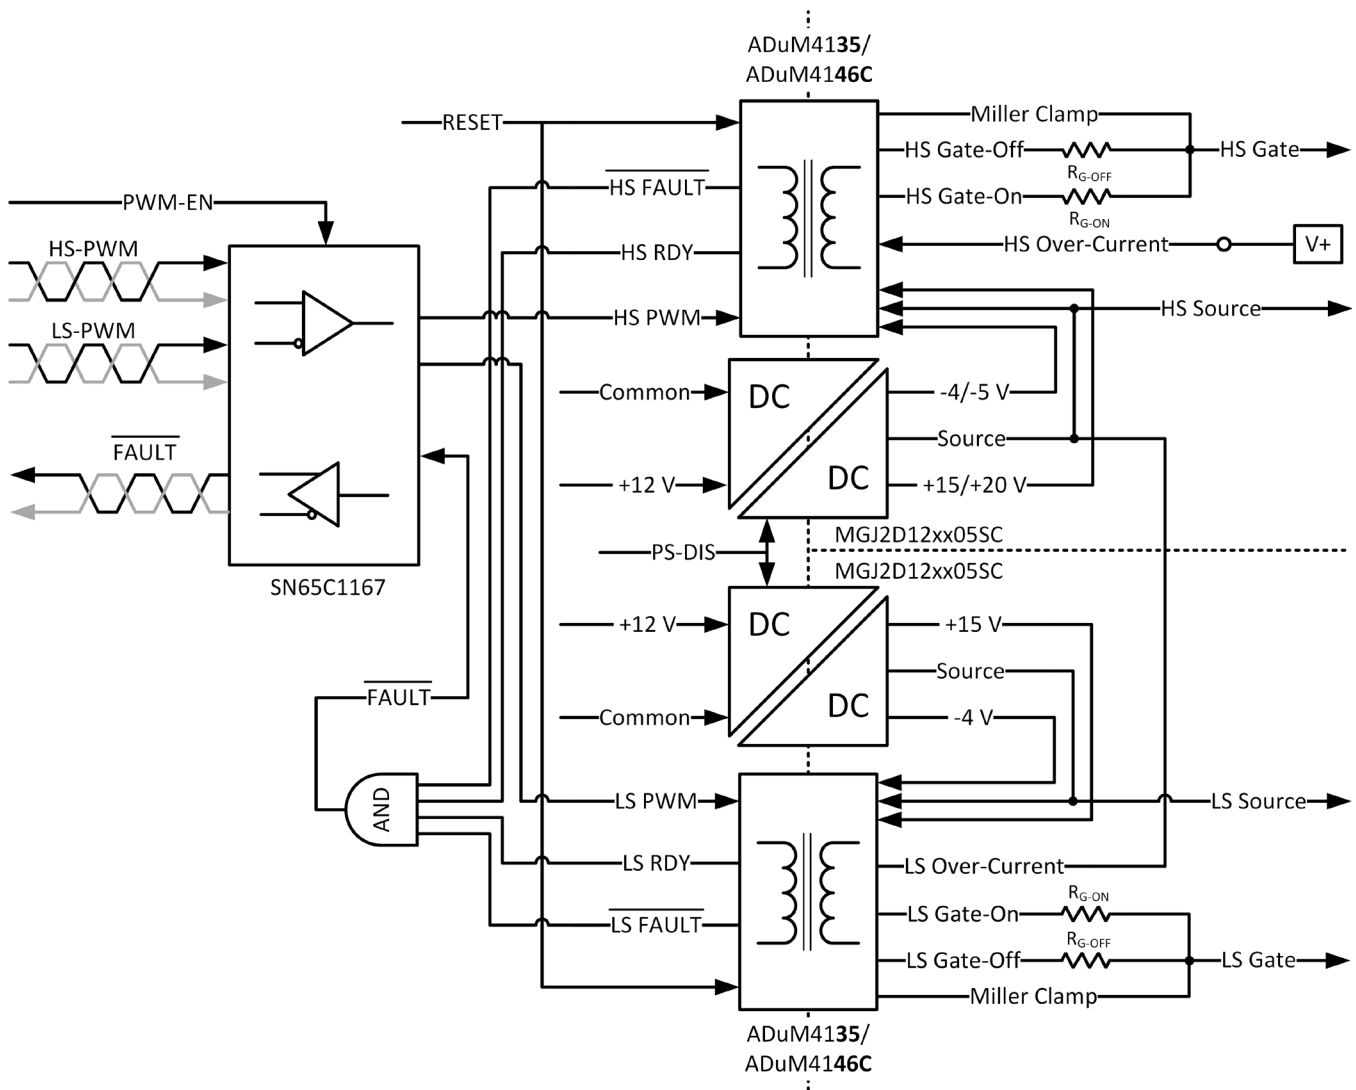
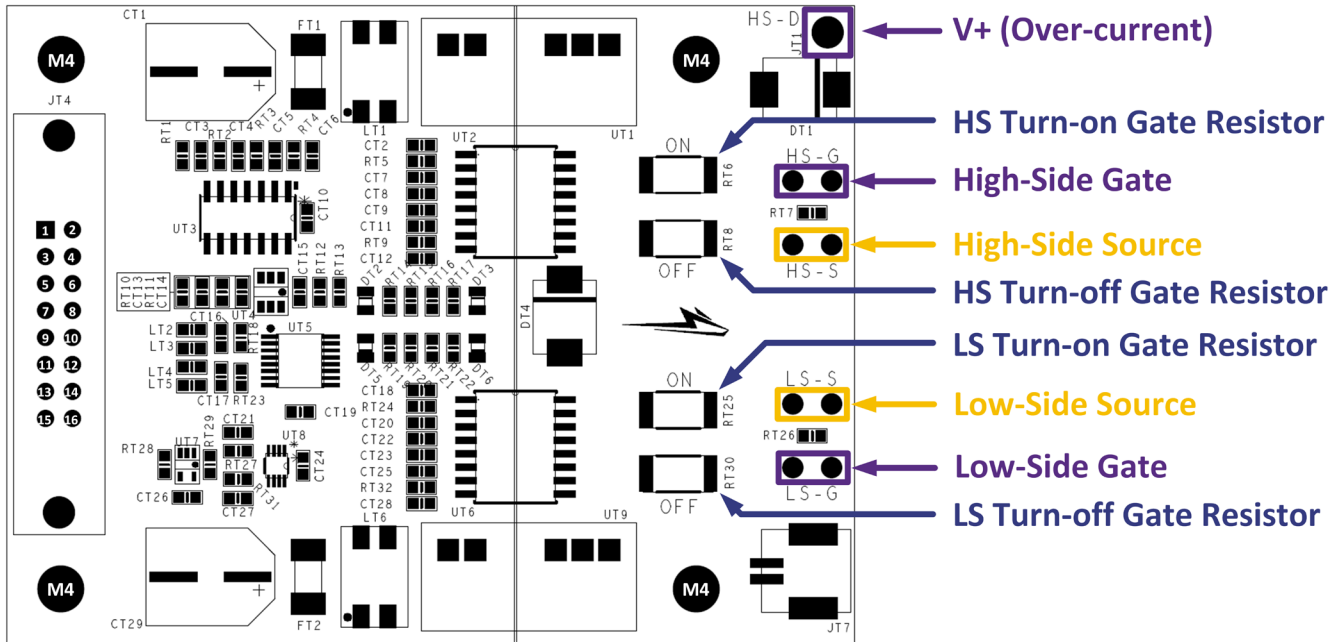
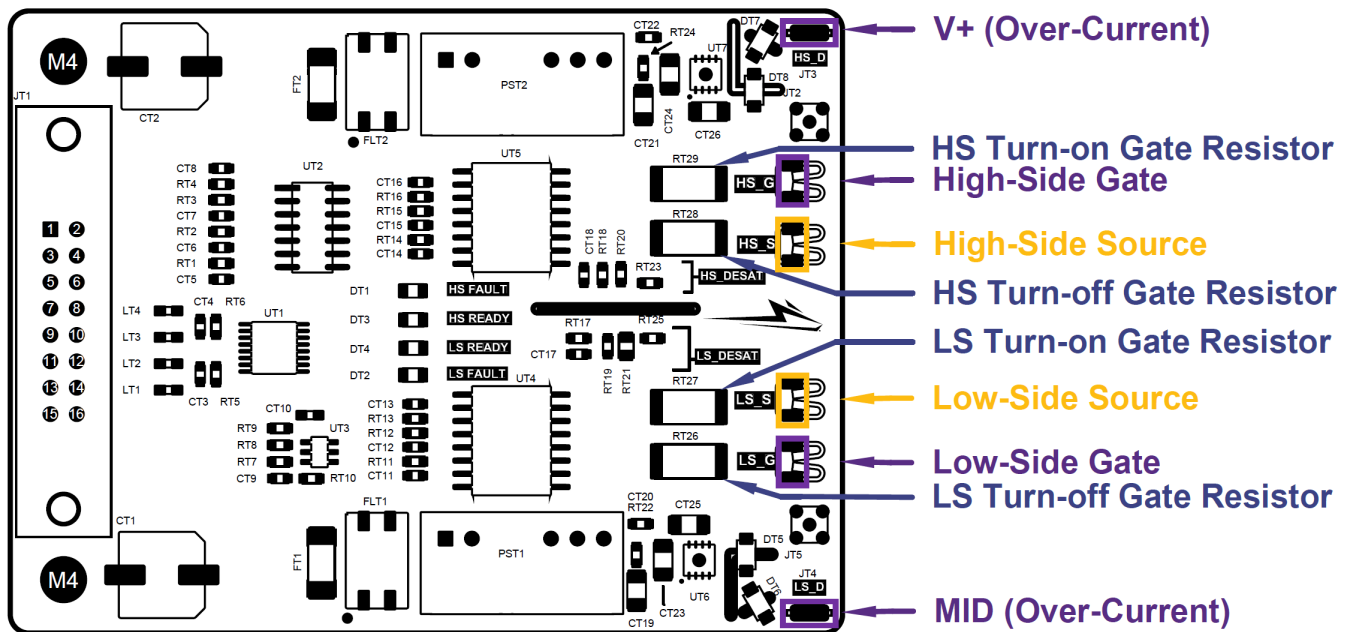

Figure 6: Block diagram of 62 mm gate drivers
Figure 7: Interface of CGD1200HB2P-BM2/3 gate drivers
Figure 8: Interface of CGD1700HB2P-BM2/3 gate drivers
A block diagram of the gate drivers in the 62 mm family is shown in Figure 6. Both channels (high- and low-side) include a dedicated isolated DC/DC converter and gate driver integrated circuit (IC) for independent modulation of the respective channels. The gate driver communicates with a controller via differential signaling for both input and feedback signals. The gate driver combines all onboard fault signals (i.e. overcurrent and power faults for both channels) into a single global fault signal which is transmitted to the controller to indicate the board status. The board includes an overcurrent detection circuit, independent turn-on and turn-off resistors and Miller clamp. Some notable interface features on the boards are indicated in Figure 7 and Figure 8 for the CGD1200HB2P-BM2/3 and CGD1700HB2P-BM2/3 gate drivers, respectively.